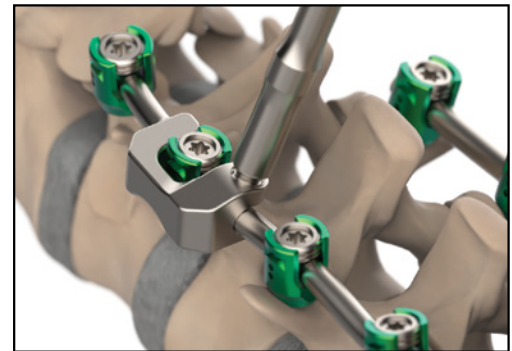

Figure 8.2
5. Slide the Bypass or Offset Z Rod to the desired position on the rod and provisionally tighten the Set Screws with the Final Driver (Figure 8.2).